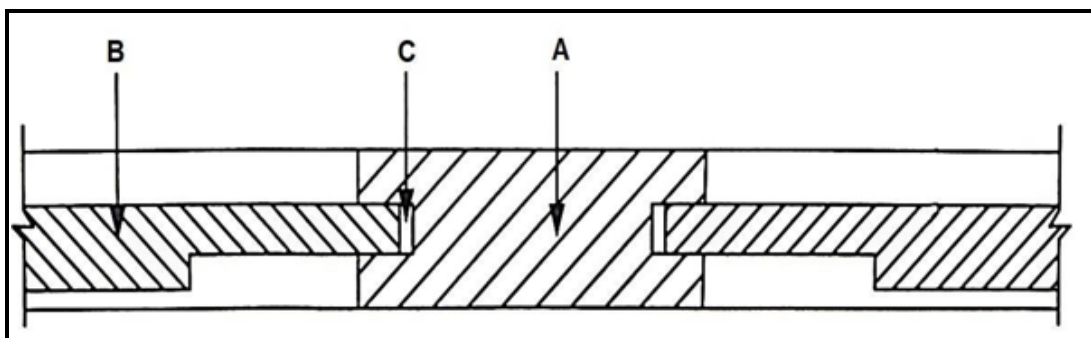

FIGURE 6.4
- 6.4 FIGURE 6.4 below shows the sectional view of a door. Study the drawing and answer the questions that follow.
- 6.4.4 Explain the purpose of the opening at **C** in FIGURE 6.4. (1)